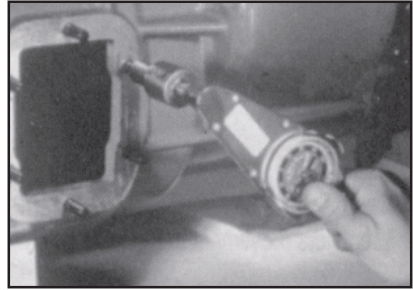

Fig. 6
6. Tighten the studs securely, and torque them to 10 - 15 ft. lbs. (1.38 - 2.07 kg. meters) for the 6 bolt and 15 - 20 ft. lbs. (2.07 - 2.77 kg. meters) for the 8 bolt. (See Fig. 6.)